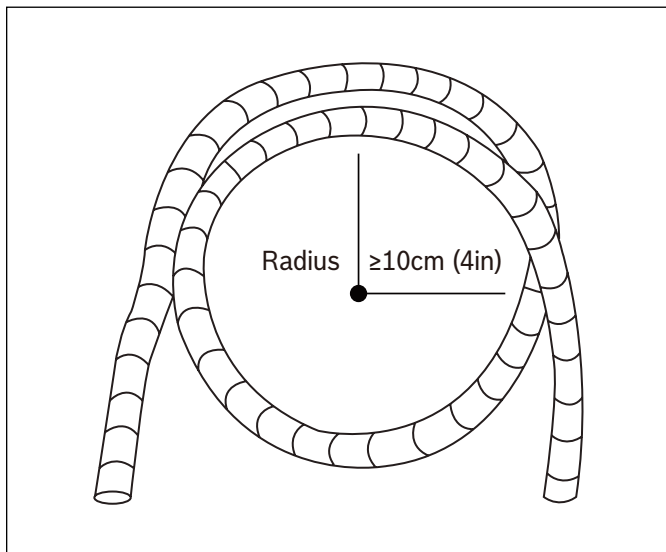

Figure 36
**Minimum Bend Radius** - When bending connective refrigerant piping, the minimum bending radius is 10cm (4in). See Figure 36.